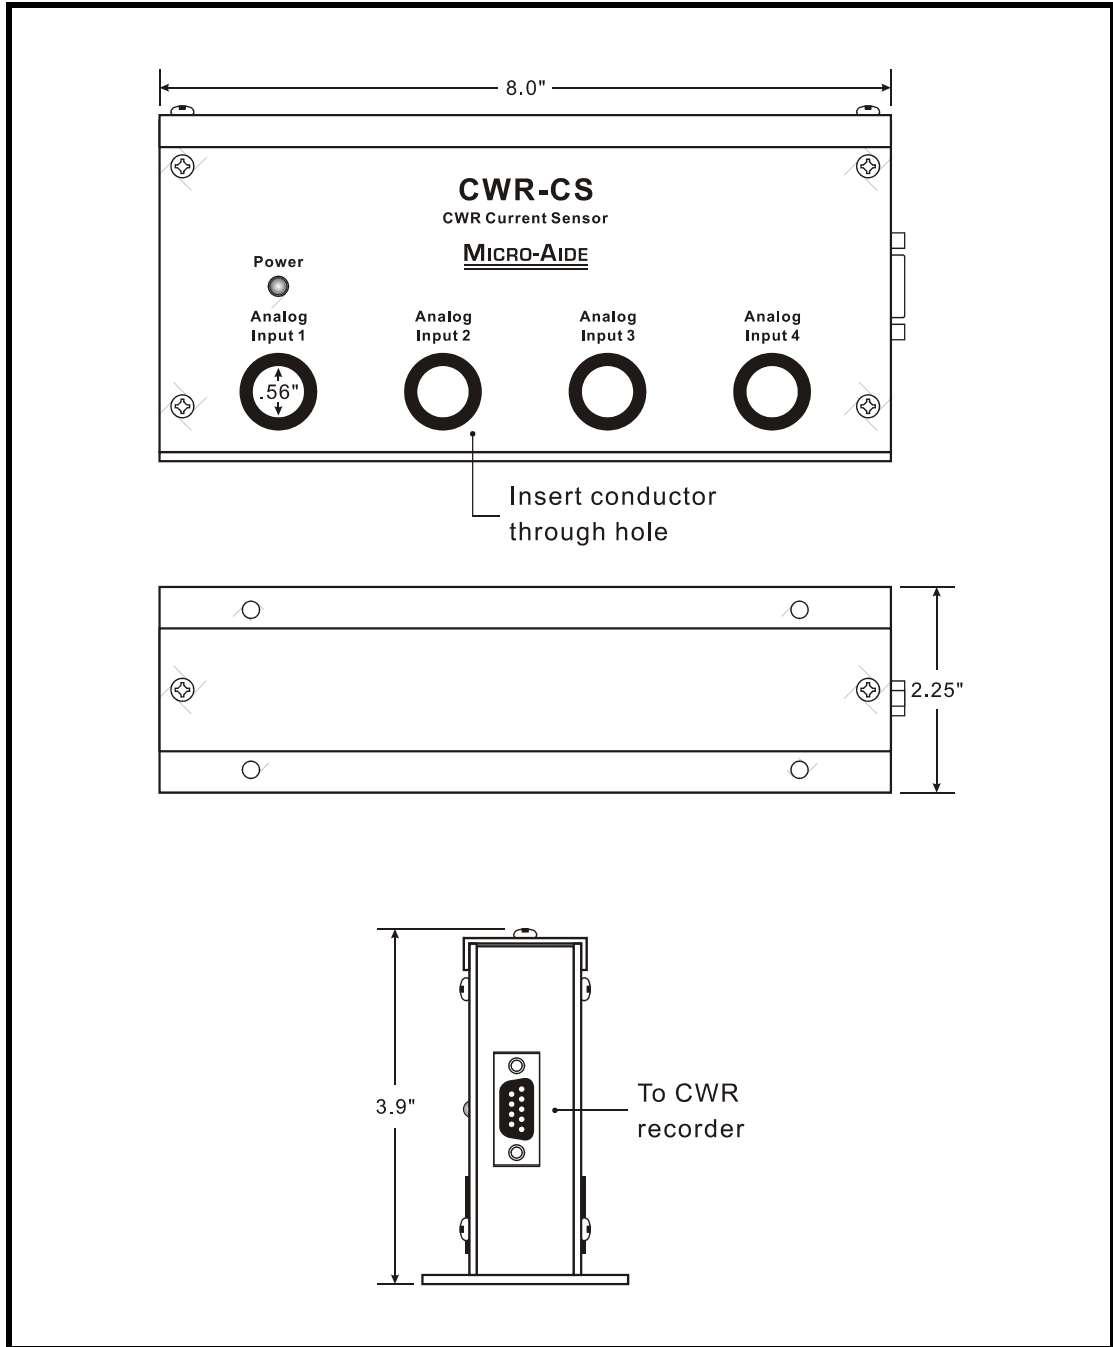

Figure 8 - CWR-CS Front, Top and Side Views
The CWR-CS is an optional accessory that can be used with any MICRO-AIDE CWR series Event Recorder. It is equipped with four general purpose current sensing inputs. Any of the first four Analog Inputs (i.e., A1 - A4) of the CWR-56 can be individually configured to measure either AC or DC current. Refer to the section entitled “Analog Configuration (A)” on page 26. The CWR-CS provides the hardware by which the voltage sensing Analog Inputs of the recorder are converted to current operation. Figure 8 on page 104 provides an illustration of the CWR-CS.
Figure 8 illustrates a typical CWR-CS installation. The unit may be mounted in any orientation (e.g., vertical or horizontal). It is not sensitive to the earth's magnetic field. The base of the unit provides four mounting holes. A shelf or back board makes an ideal mounting platform.